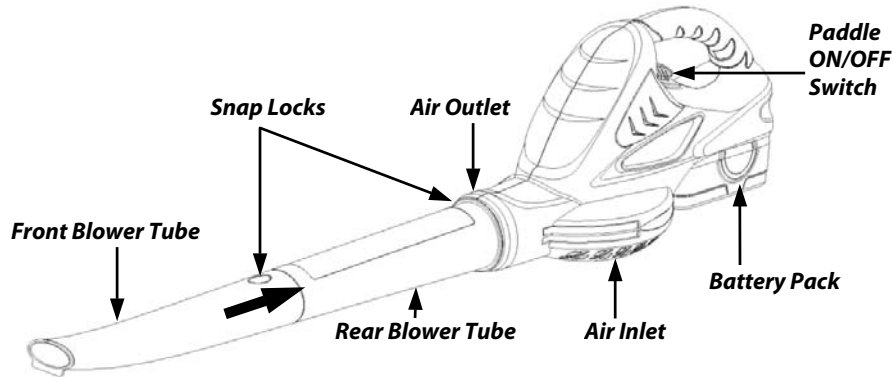

Figure 1
1. Orient the Front Blower Tube as shown in **Figure 1** and align the Snap Lock Hole in the Front Tube with the Snap Lock Button in the smaller end of the Rear Blower Tube. Slide them together until the Snap Lock Button on the Rear Tube snaps into the Snap Lock Hole in the Front Tube.
2. Line up the Snap Lock Hole in the end of the Rear Blower Tube with the Snap Lock Button in the Air Outlet of the Motor Housing (**Figure 1**). Push the Rear Tube onto the Air Outlet of the Motor Housing until the Snap Lock Button engages the Snap Lock Hole in the Rear Tube.